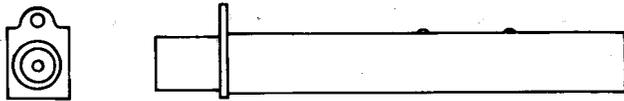

Fig. 21—571A Jack
2.21 571A: This coaxial-type jack (Fig. 21) consists of a modified 211A terminal assembled in the rear of a 472B jack and soldered. A 237A resistor (2297 ohms) is connected from the contact to the conductor. The 571A jack is designed for a solderless shield connection to a 724 or similar-type cable. This jack was tested at 2000 volts ac before the resistor